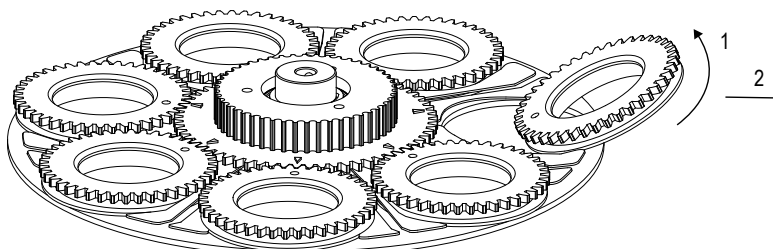

Figure 19: Gobo holder removal.
3. Release the gobo holder by pushing the holder down, and slide it out from the gobo wheel (figure 19). **Do not touch the gobo.**